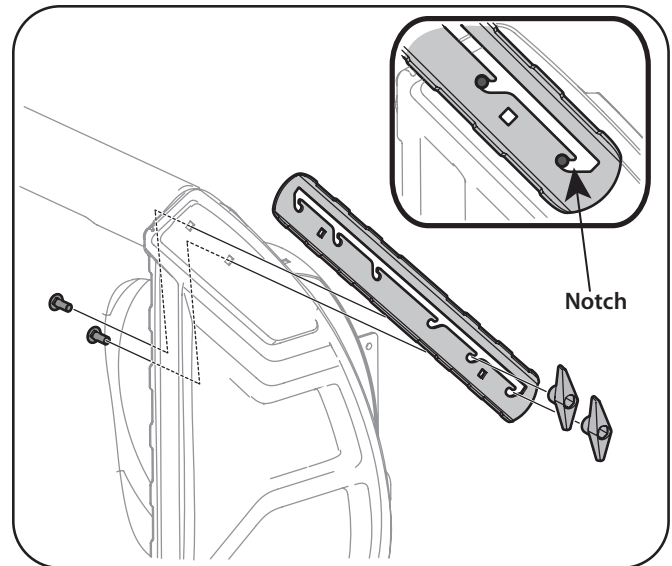

Figure 3-13
Drift cutters are assembled at the factory for shipping purposes. Assemble the drift cutters as shown in Figure 3-13 prior to operating your snow thrower.
2. Reposition the drift cutters to the housing with the notches facing to the front of the unit as shown in Figure 3-13. Secure with plastic wingnuts and carriage bolts. Bolts should be on the inside of the housing and seated in the notches of the drift cutter, see inset Figure 3-13.